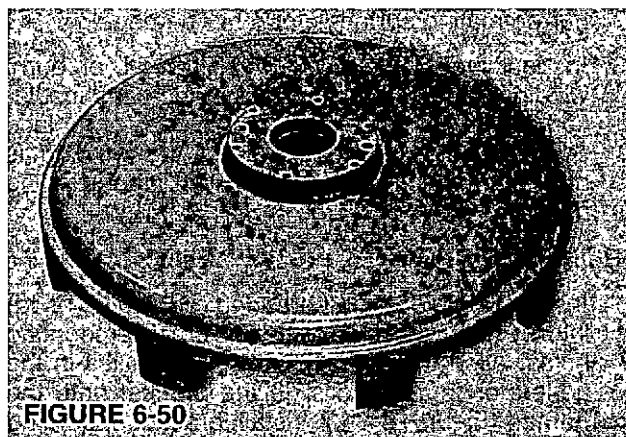

FIGURE 6-50
4. Inspect the bracket or adapter for stripped threads, cracks, and burred or rough mating surfaces. (Figure 6-50.)